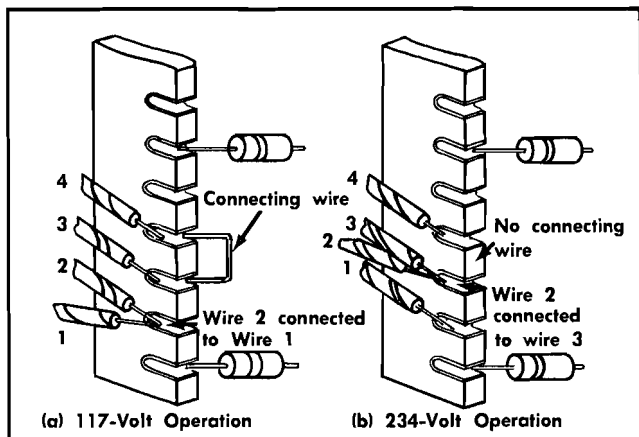

Fig. 2-1. Power transformer connections for 117- or 234-volt operation.
1. Refer to Fig. 2-1 for connection of the transformer primary leads and jumpers for the desired line voltage. This ceramic terminal strip is located on the right side of the instrument at the rear of the plug-in compartment.